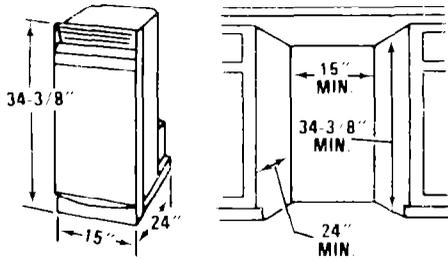

FIGURE 3
2. The compactor's overall dimensions are: Height 34 $\frac{3}{8}$ " (87.3 cm), Depth 24" (61 cm), Width 15" (38.1 cm). Select a cabinet opening to fit. See Figure 3.